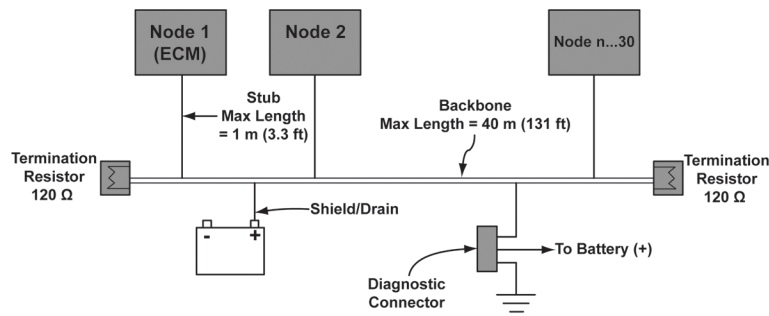

Figure 13-3: Example of J1939 Topology
- The topology of J1939 is a linear bus, meaning, in simple terms that it has a beginning and an end. (see Figure 13-3) The main wires of the data link are referred to as the backbone. Devices communicating on the data link are referred to as nodes. The wires connecting the backbone to the nodes are referred to as stubs
- The backbone wires are twisted and may be shielded to prevent radio frequency (RF) interference.